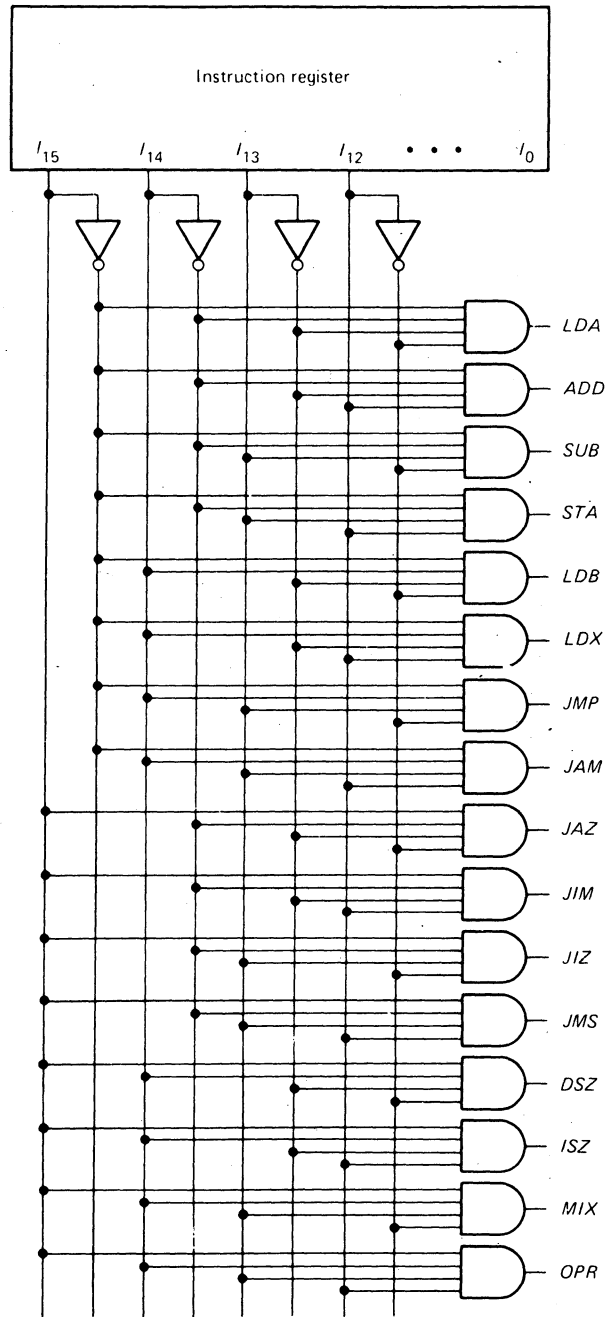

Fig. 2-25 A 1-of-16 decoder.
- 2-23. Figure 2-25 shows a 1-of-16 decoder. The signals coming out of the decoder are labeled *LDA*, *ADD*, *SUB*, and so on. The word formed by the 4 leftmost register bits is called the **OP CODE**. As an equation,
- 2-24. In Fig. 2-25, list the **OP CODE** words and the corresponding high output signals. (Start with 0000 and proceed in binary to 1111.)